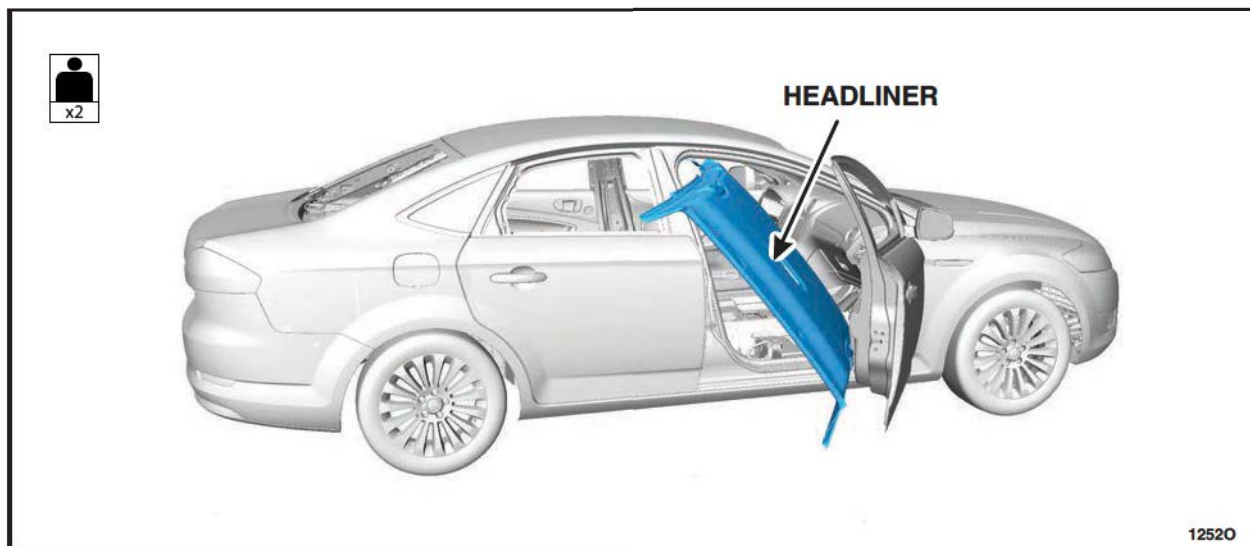

FIGURE 18
1. With the help of an assistant, remove the headliner through the front passenger side door. See Figure 18. Click here for headliner removal instruction video.
See Figure 18.